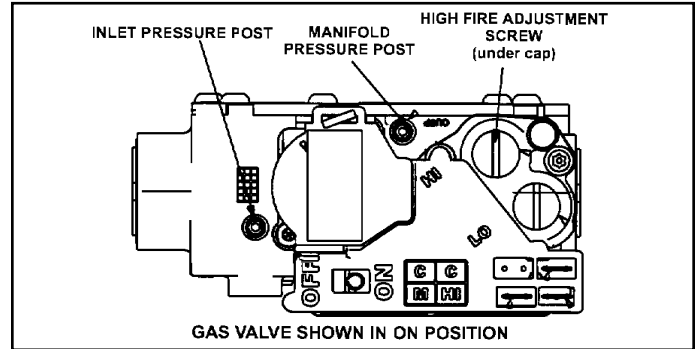

Figure 77.
- Move gas valve switch to OFF. See Figure 77.
- Move gas valve switch to ON. See Figure 77.
An inlet pressure post on the inlet side of the gas valve provides access to the supply pressure. See Figure 77. Back out the 3/32 Hex screw one turn, connect a piece of 5/16" tubing and connect to a manometer to measure supply pressure.
1. A manifold pressure post located on the gas valve provides access to the manifold pressure. See Figure 77. Back out the 3/32 Hex screw one turn, connect a piece of 5/16" tubing and connect to a manometer to measure supply pressure.